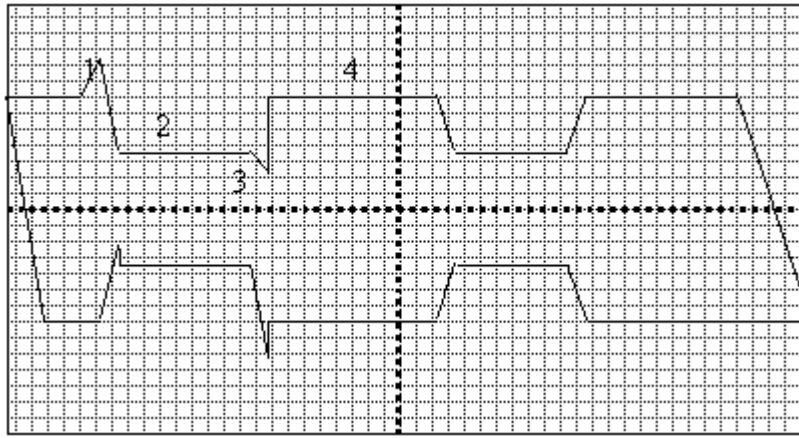

Figure 3.12 (Example of lateral force scan and retrace)
- ◆ The graph in Figure 3.12, above, depicts an ideal trace and retrace on-scope for a sample with low friction areas where one is a flat bump (possibly due to some low friction material sticking to a high friction surface). Notice on the trace that as the probe strikes the edge of the bump (1), the lateral force increases momentarily and then decreases as the tip begins scanning across the low friction bump (2). At the other edge of the bump, the lateral force may decrease as the probe comes off the bump (3), and then will increase as the probe scans across the high friction surface (4). On the retrace, notice the sign of the frictional force will change, but the shape will remain the same. The lateral forces due to topography shift to the other side of the bump and also change sign.